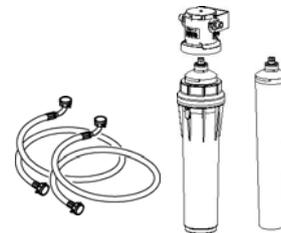

Fig. 8
**3.3.1 Water treatment (fig. 8)**